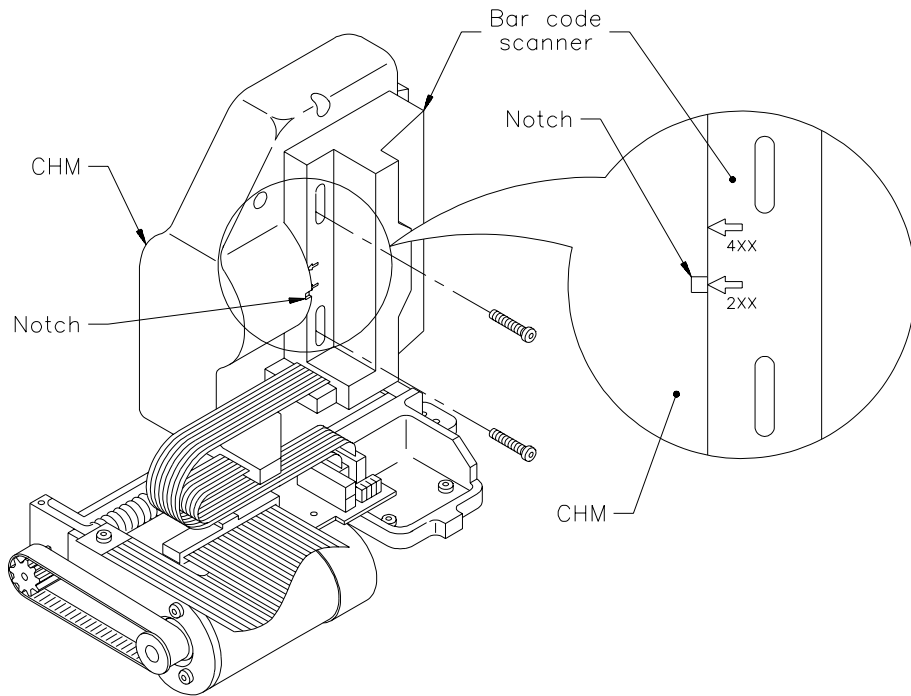

Figure 6 Scanner and screw positions
3. Locate the arrow labelled 2xx on the bar code scanner (see Figure 6).
5. Use a T-15 TORX screwdriver to replace the two panhead screws that attach the bar code scanner to the CHM (see Figure 6). Tighten the screws to 6.0 inch-pounds (6.9 kg-cm) of torque.